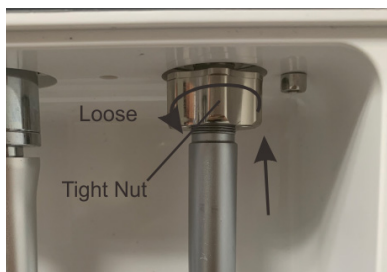

Figure 8
2. Open the door cover, install the handpiece to the connector and tighten the nut (As shown in Figure 8)